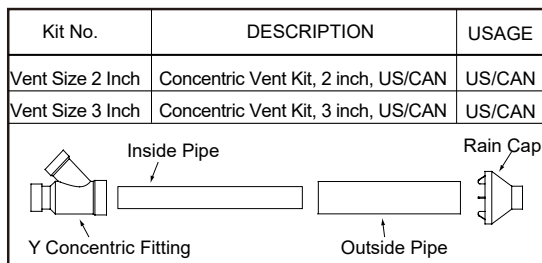

Fig.7-12 Kit Components
The concentric vent termination kit is shipped assembled but not cemented. Disassemble the kit and cement as shown in Fig.7-12.
3. Partially assemble the concentric vent termination kit as shown in Fig.7-12 and 7-13. a. Cement Y concentric vent fitting to larger diameter kit pipe. See Fig.7-12. b. Cement rain cap to smaller diameter kit pipe. See Fig.7-12.
3. Partially assemble the concentric vent termination kit as shown in Fig.7-12 and 7-13. a. Cement Y concentric vent fitting to larger diameter kit pipe. b. Cement rain cap to smaller diameter kit pipe.